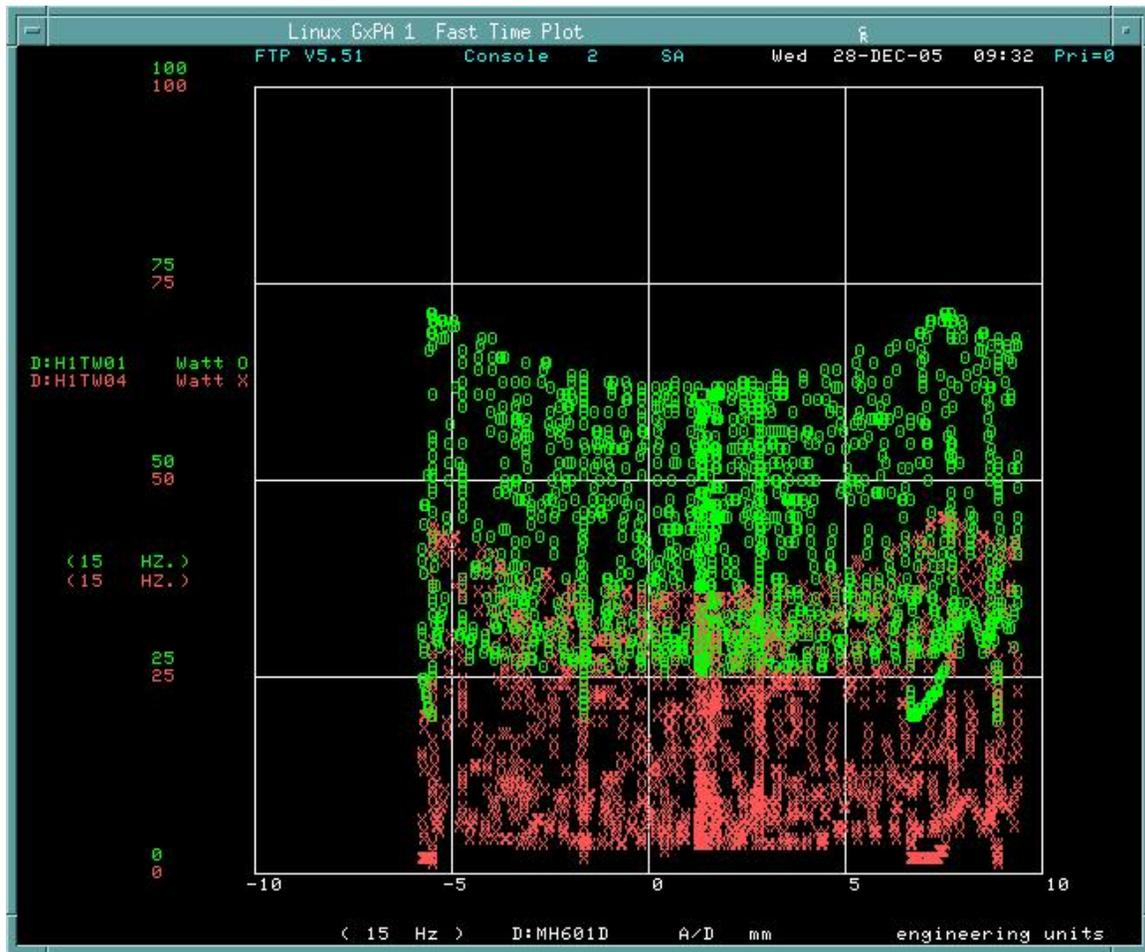

Figure 3: FTP for centering HB1 D/S end
- 3) To center the upstream end of the tank, start a fast time plot of the tank position vs TWT power. See Figure 3.